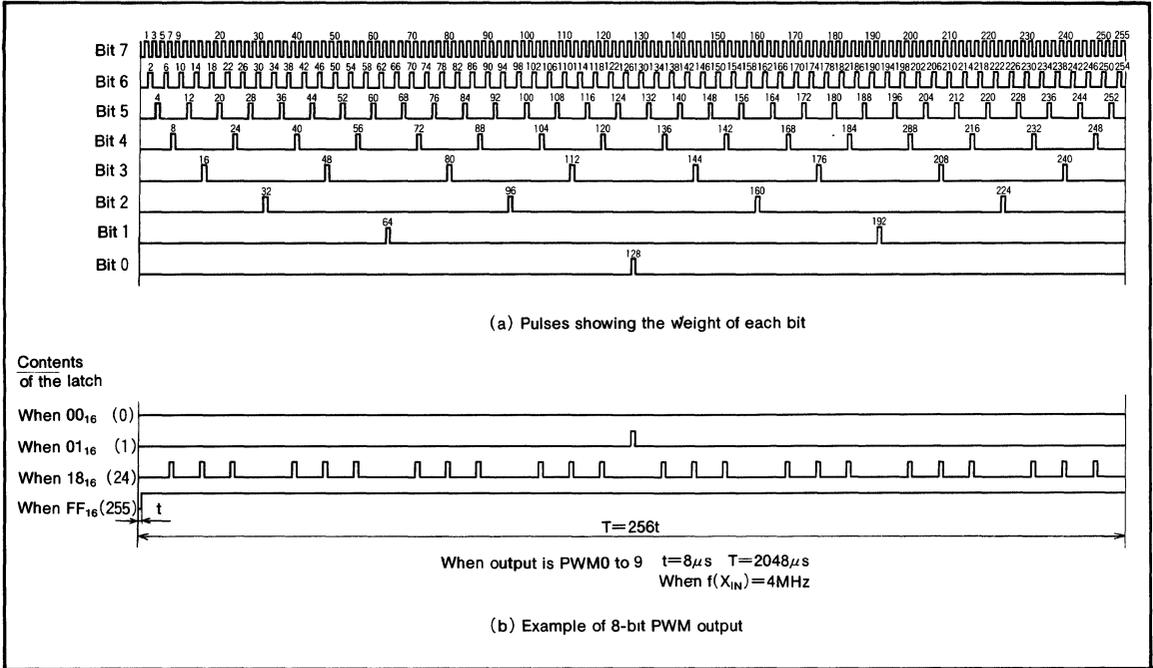

Fig. 17 8-bit PWM timing diagram
(4) Operation of the 8-bit PWMs
The timing diagram of the ten 8-bit PWMs (PWM0-9) is shown in Figure 17. One period (T) is composed of 256 (2⁸) segments.
There are eight different pulse types configured from bits 0 to 7 representing the significance of each bit. These are output within one period in the circuit internal section. Refer to Figure 17 (a).
Eight different pulses can be output from the PWM. These can be selected by bits 0 through 7. Depending on the content of the 8-bit PWM latch, pulses from 7 to 0 is selected. The PWM output is the difference of the sum of each of these pulses. Several examples are shown in Figure 17 (b). Changes in the contents of the PWM latch allows the selection of 256 lengths of high-level area outputs varying from 0/256 to 255/256. An length of entirely high-level output cannot be output, i.e. 256/256.